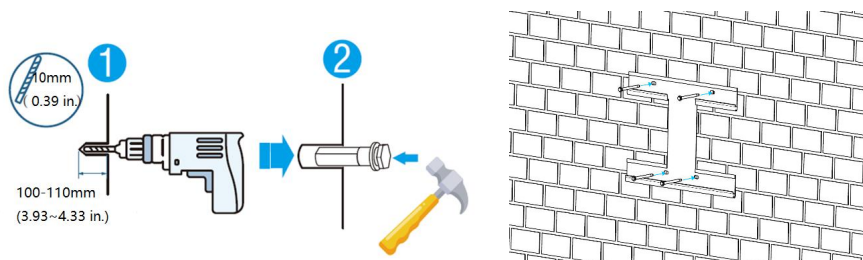

Figure 5-1
b) Choose the recommend drill head (as shown in Figure 5-1) to drill 4 holes on the wall, 100mm-110mm deep.
c) Use a proper hammer to fix the hanging plate to the wall, fit the expansion bolt(M6*100) into the holes, as shown in Figure 5-1.